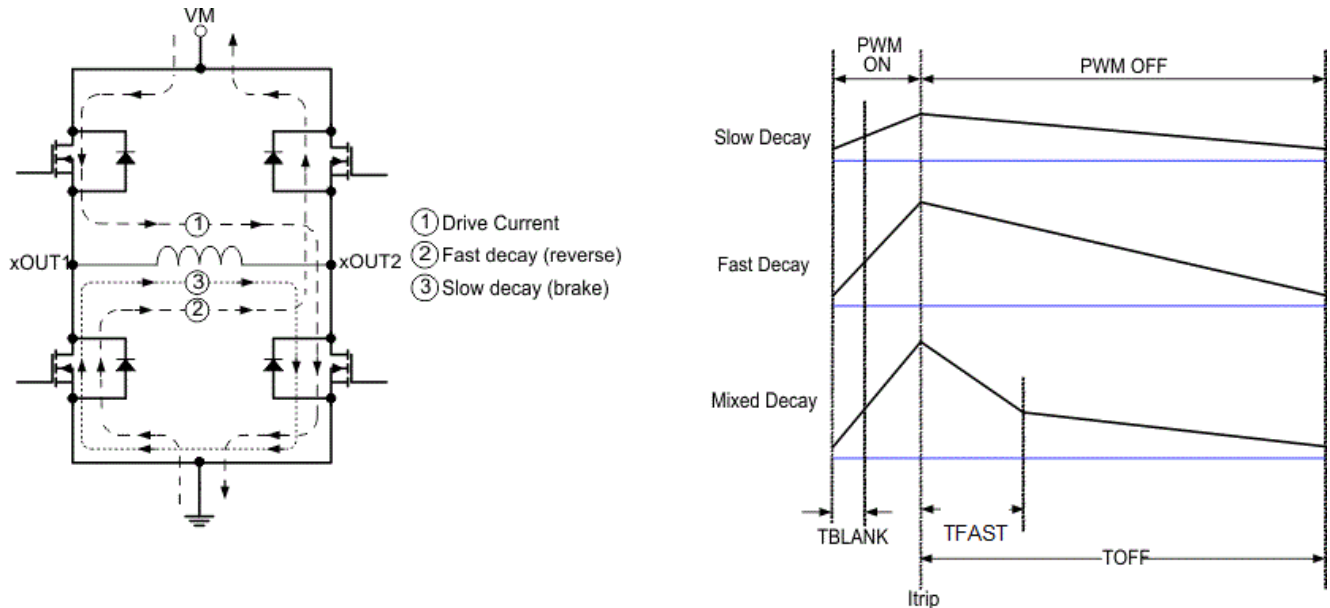

Figure 7-7. Decay Modes
During PWM current chopping, the H-bridge is enabled to drive through the motor winding until the PWM current chopping threshold is reached. This is shown in Figure 7-7, Item 1.
Once the chopping current threshold is reached, the H-bridge can operate in two different states, fast decay or slow decay. In fast decay mode, once the PWM chopping current level has been reached, the H-bridge reverses state to allow winding current to flow in a reverse direction. The opposite FETs are turned on; as the winding current approaches zero, the bridge is disabled to prevent any reverse current flow. Fast decay mode is shown in Figure 7-7, item 2. In slow decay mode, winding current is re-circulated by enabling both of the low-side FETs in the bridge. This is shown in Figure 7-7, Item 3.